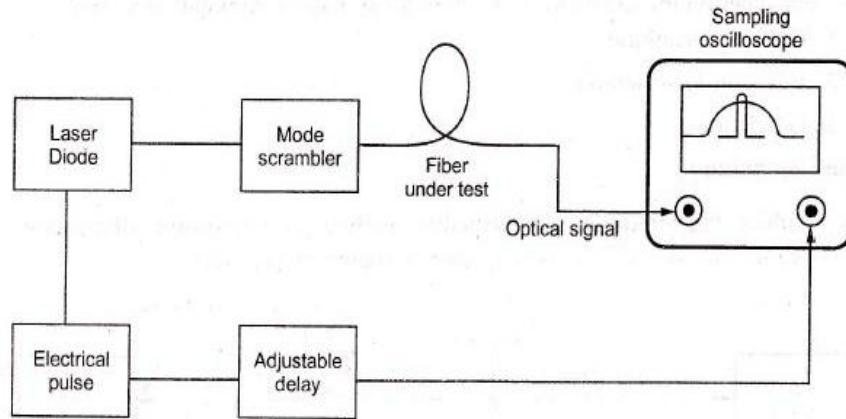

Fig. 8.7.2 Test setup for making pulse dispersion measurements in time domain
- Time-domain intermodal dispersion measurement involves injecting a narrow pulse of optical energy into one end of an optical fiber and detect the broadened output-pulse at the other end. The set up for this measurement is shown in the Fig. 8.7.2